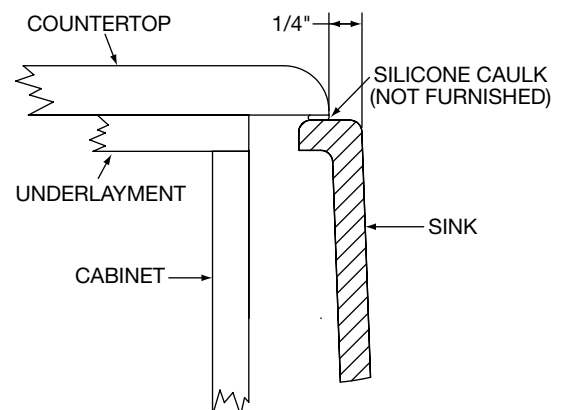

FIGURE 2
- Templates are not included however it is recommended that the sink countertop cutout provide a reveal into the sink bowl opening as shown in Figure 2.